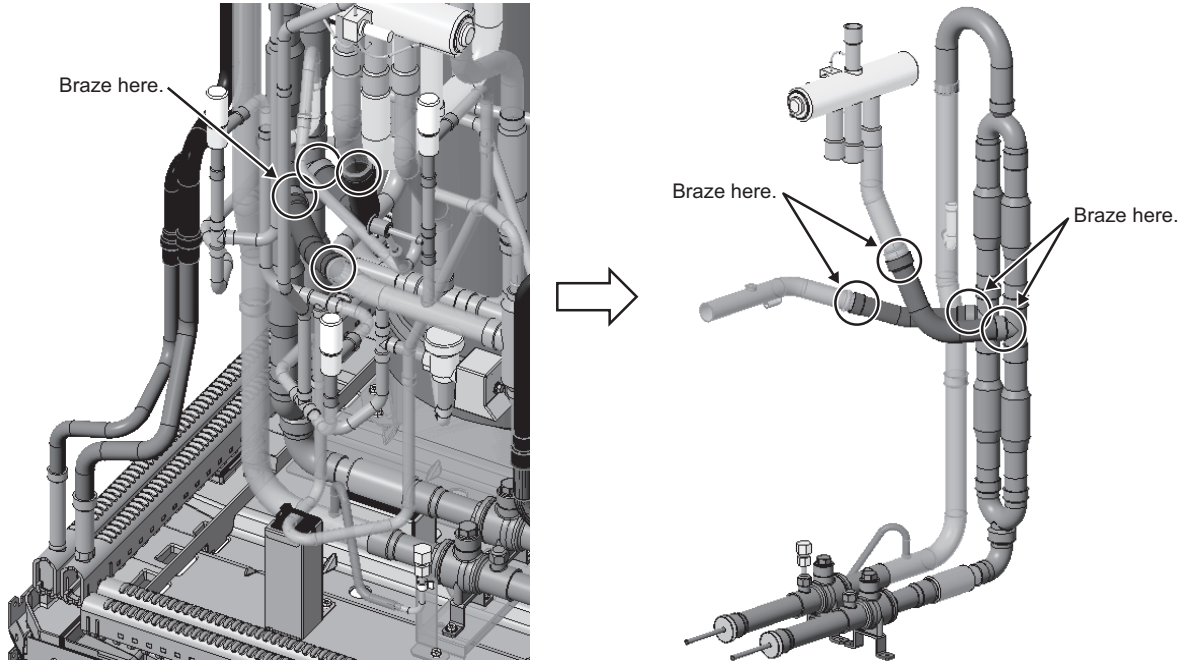

Fig. 10
(10) Braze the new check valve assembly, supplied pipes, and connecting pipes. (Four areas to braze: Fig. 10)